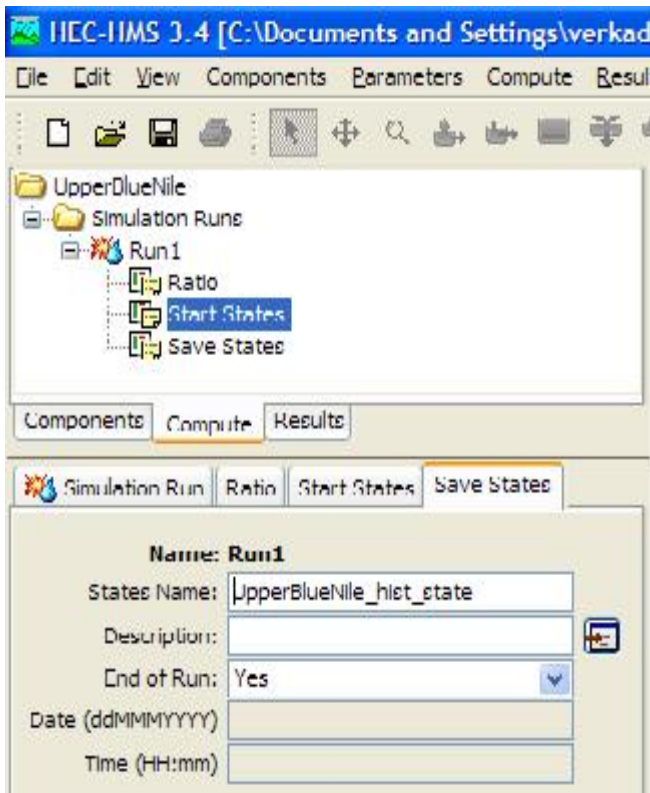
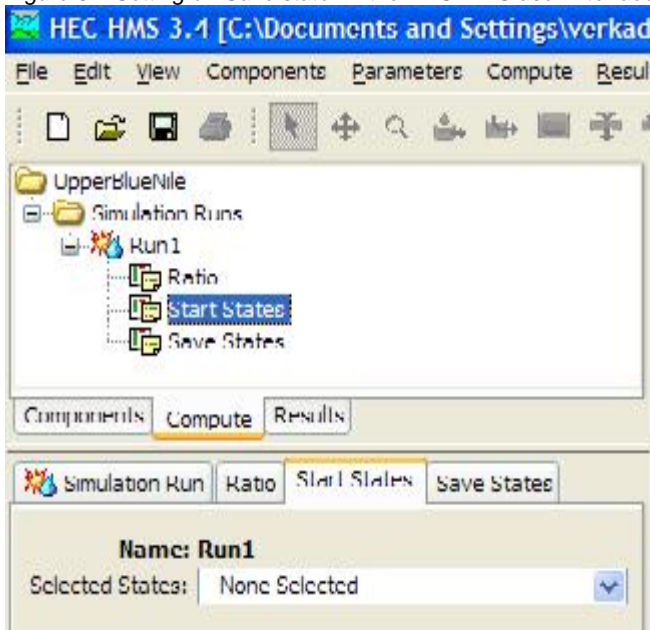

Figure 3.7 Setting of "Save state" in the HEC-HMS user interface
Figure 3.8 Setting of "Start state" in the HEC-HMS user interface
- In the .run file of the HEC-HMS model no lines defining "Start State Name" and "Save State Name". This can be done directly deleting the two lines in the .run file or via the GUI in the run definition, Figure 3.7 and Figure 3.8.
However, before changing the .run options, it is needed to create a state to be used as cold state (if not already existing). This can be done by Figure 3.7 and Figure 3.8: